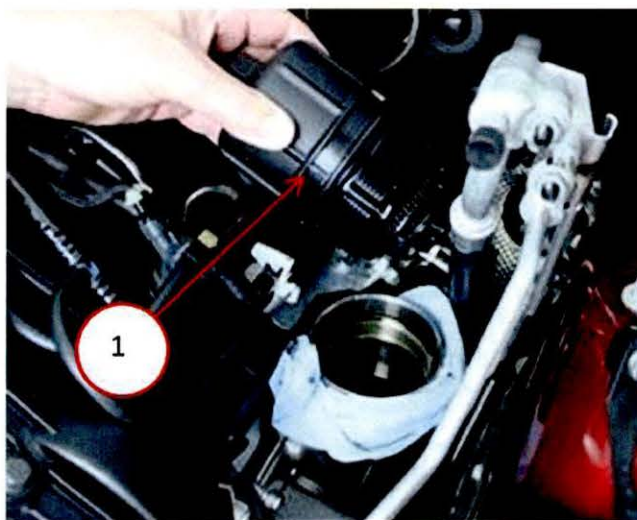

Fig. 2 Oil Filter Removal
3. To separate the filter from the cover, hold the oil filter cover and push down on the base of the oil filter to separate it from the cover. Then, remove the oil filter (Fig. 2).